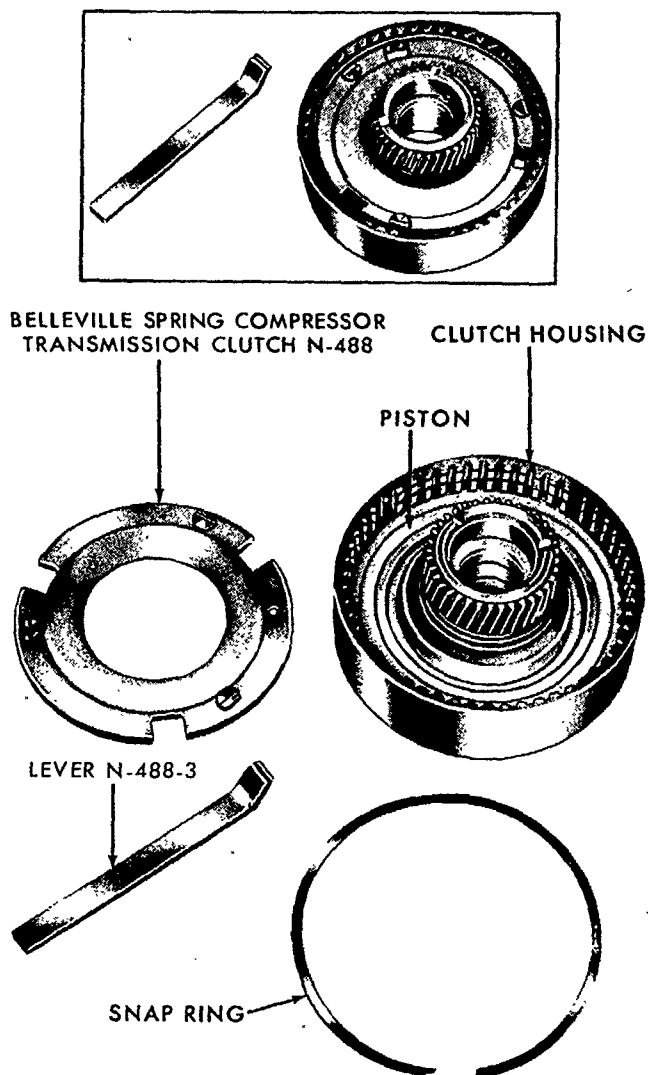

Figure 112
2. Position the Spring Compressor No. N-488, in the clutch housing, as shown in the Insert, Figure 112, and install the snap ring. Make sure the snap ring ends are positioned away from the slots in the compressor.